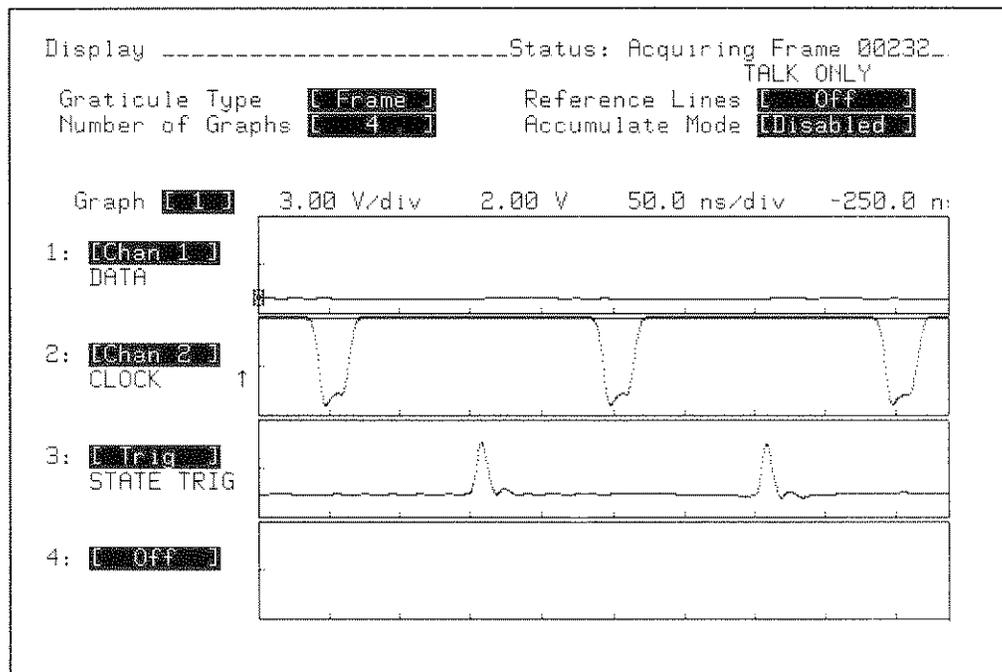

Figure 9-25. Clock Pulse Width Test Waveforms
23. The waveforms displayed on screen should be similar to figure 9-25.
26. The waveforms displayed on screen should be similar to figure 9-25.
29. The waveforms displayed on screen should be similar to figure 9-25.